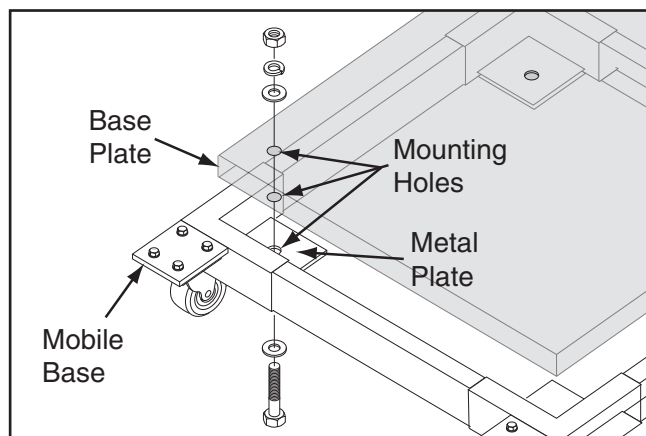

Figure 22. Example of mounting plywood base plate to mobile base.
If the footprint of the machine is too small for the mobile base or the machine doors or fixtures do not clear the side rails, you can mount it to a base plate, as shown in **Figure 22**.
3. Secure base plate to mobile base with $\frac{5}{16}$ " hex bolts, hex nuts, flat washers, and lock washers, as shown in **Figure 22**.